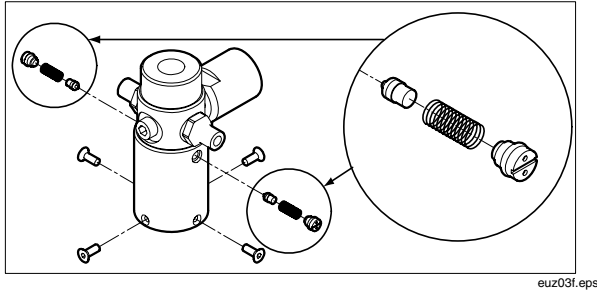

Figure 3. Cleaning the Valve Assembly
- Gently remove the spring and o-ring assembly. Take care when removing check valve as it contains several small components. See Figure 3.